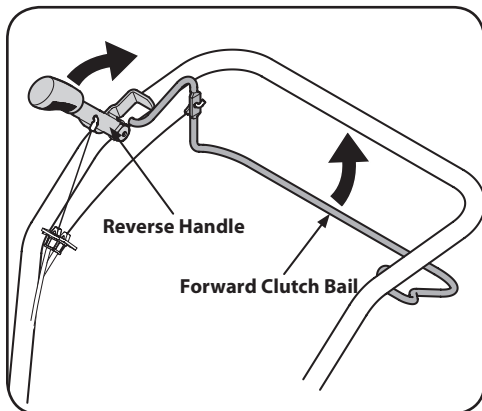

Figure 3-4
2. When tilling, relax and let the wheels pull the machine while the tines dig. Walk behind and a little to one side of the tiller. Use one hand, yet keep a light — but secure — grip on the handlebar (while keeping your arm loose). See Figure 3-4. Let the tiller move at its own pace and do not push down on the handlebars to try and force the tines to dig deeper — this takes weight off the wheels and reduces traction.